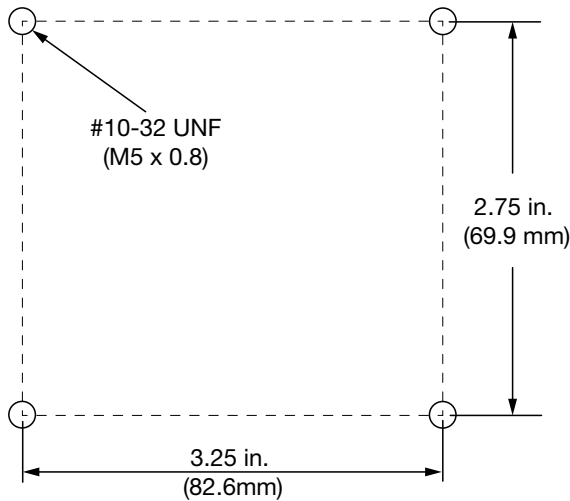

FIG. 49
2. Mount base (B) in desired location with four screws supplied in this kit. See FIG. 49 page 117.